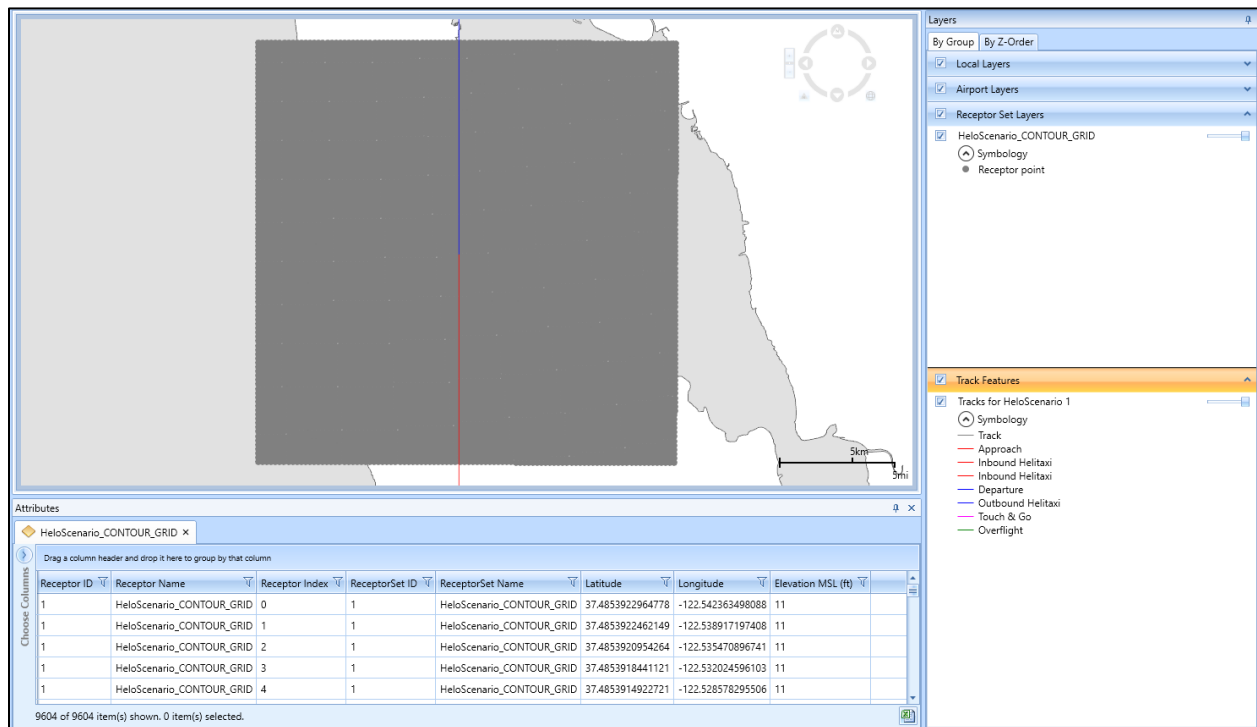

Figure 5-38 Sample Receptor Set Layer with Attributes – shown with Tracks
3. The Receptor Set Layer is displayed on the map (Figure 5-38) and in the *Layers* manager.
The following attributes are available for all Receptor Set Layers: receptor ID, receptor name, receptor index, receptor set ID, receptor set name, latitude, longitude, elevation (Figure 5-38). See Appendix B.3 for descriptions of the attributes.
The following attributes are available for all Noise Exposure Layers: receptor ID, receptor name, receptor index, receptor set ID, receptor set name, latitude, longitude, elevation, noise results (dB, Minutes, %, or Operation count), metric type, and metric name (Figure 5-38). See Appendix B.3 for descriptions of the attributes.